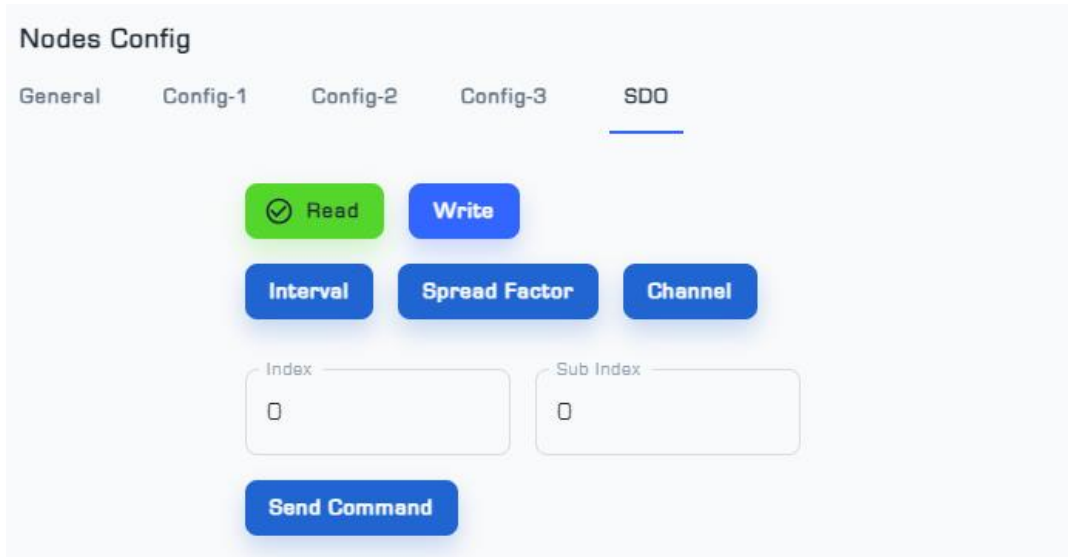

Figure 7: SDO Menu from Nodes Config page
- The SDO menu is used to change the parameters of Interval¹, Spread Factor, and Channel² (Figure 7).